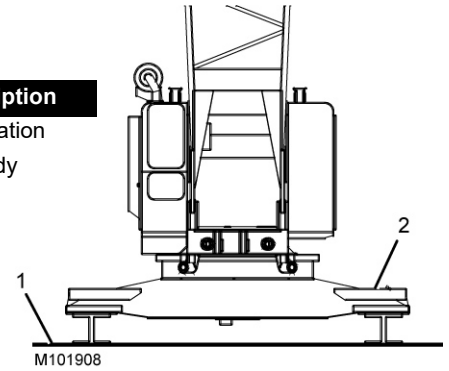

Figure 2-8. Carbody-Mounted Crane
2. Crane rotating bed mounted on a carbody (crawlers removed) which is securely fastened to the foundation (Figure 2-8).